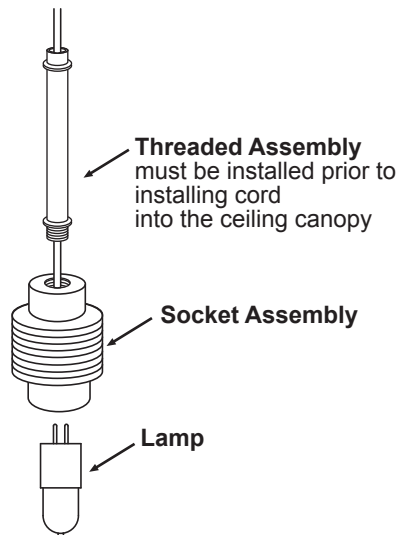

Figure 1
1. Begin by threading the Threaded Assembly into the top of the Socket Assembly provided. Then install the Mounting Hub on the Threaded Assembly until the Hub rests on the top Ridge of the Threaded Assembly. See figure 1.
While holding the Lampholder secure, hold the Lamp by the base, just above the contacts, and firmly push the lamp into the socket. See figure 1.